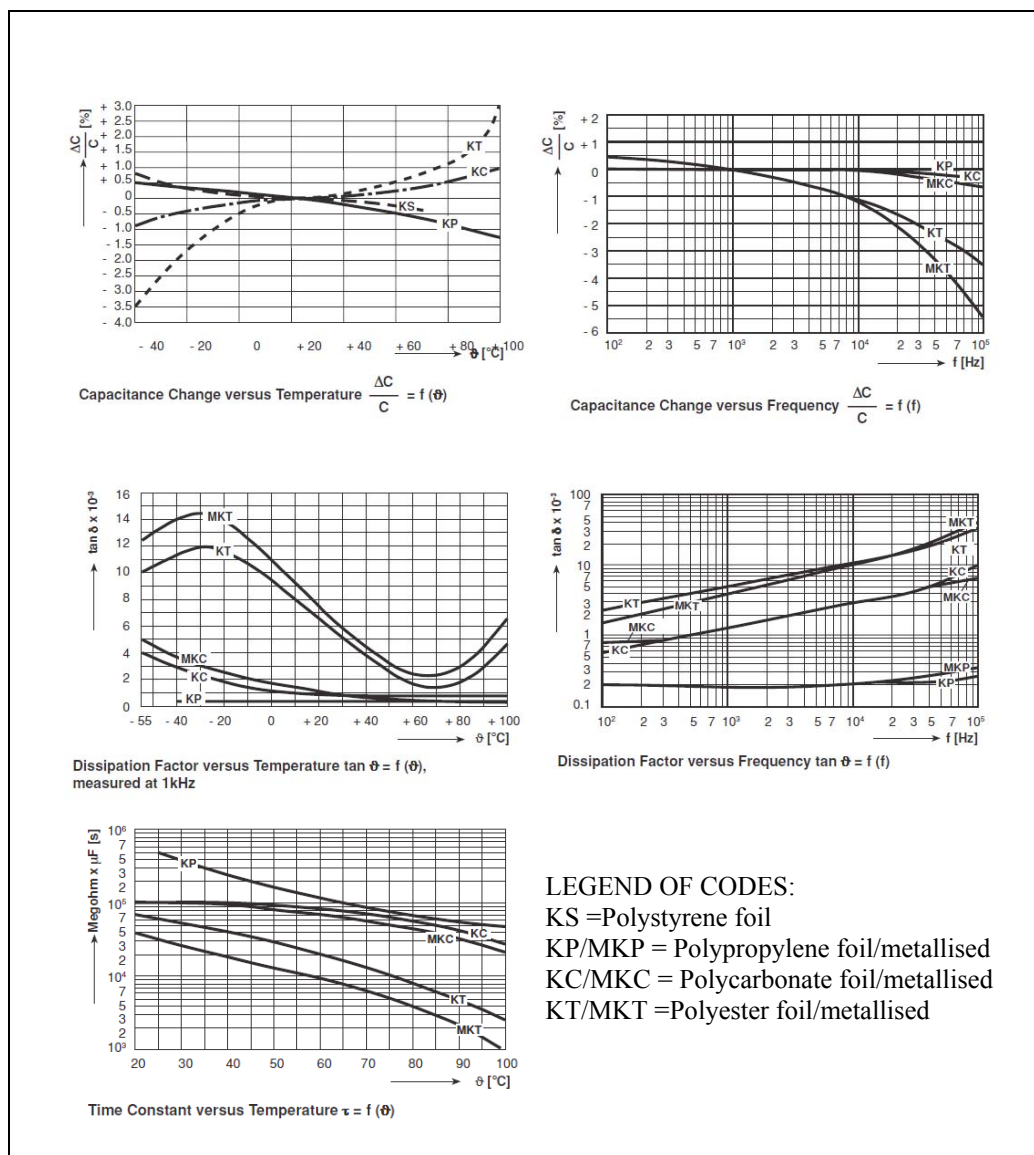

Figure 5.8 – Changes in Capacitance and Loss angle with Temperature and Frequency of Film Capacitors
Film capacitors are available in values of 100 pF to 1 μ F (seldom to 10 μ F) and in voltage ratings from 50 V to several thousand volts. Tolerances are 20% down to 0.5% for some types. Dissipation Factors (DF) are less than 1% at 25 °C. Films with low DF at room temperature have generally low DFs over the entire temperature range. Insulation resistance generally decreases with temperature, sometimes by up to two or three orders of magnitude at 125 °C. Film capacitors can be used at high frequencies, depending on the size and length of the leads. The basic properties of film dielectric materials are listed in Table 5.1 and Figure 5.8 below.
From Table 5.1 and Figure 5.8 one can see that the films showing the lowest losses at high frequencies and the best temperature stability are polystyrene, polypropylene, polycarbonate and PTFE (Teflon).